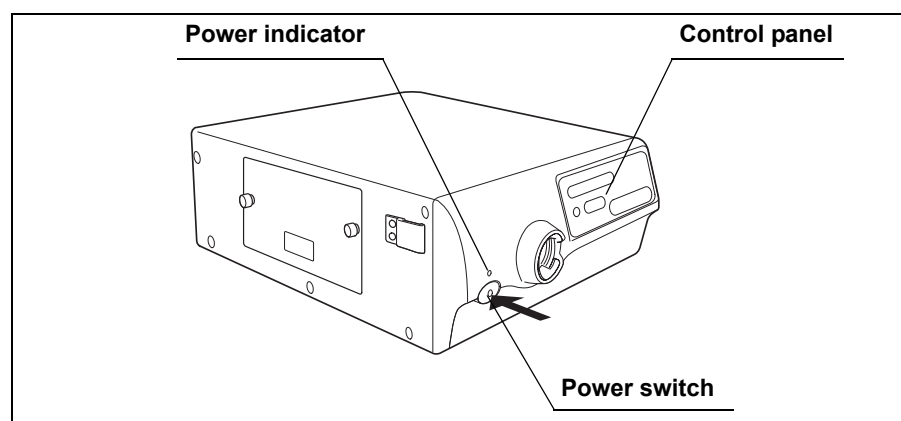

Figure 3.2
3. Press the power switch of the light source with no endoscope connected. The power indicator lights up (see Figure 3.2).